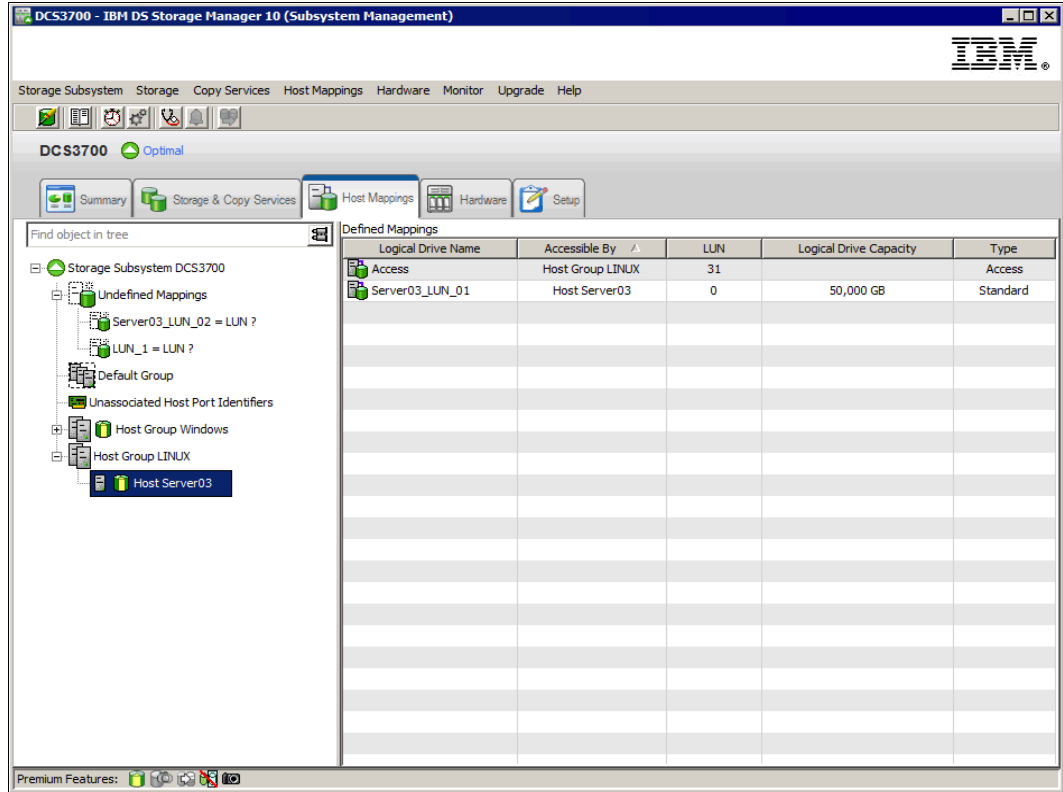

Figure 10-17 Displaying created mappings
- Your host group, host, and your new mapping are visible immediately in the Topology tree of the Mappings tab, and the host group and the host are now removed from the Default Group. The Storage Partitioning icon shows that the mapping is there, as shown in Figure 10-17. In the Defined Mappings pane, you can see the logical drive with an assigned LUN number.